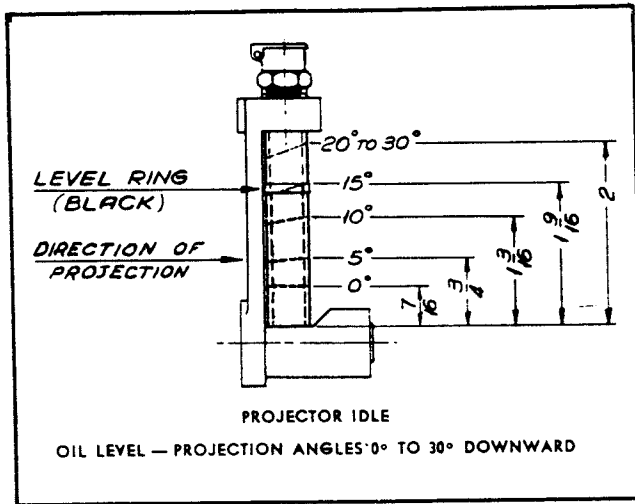

FIGURE 1-17
1. Set the black oil level indicator ring on the oil sight gauge as shown in figure 1-17 or 1-18. The drain plug in the oil gauge must be tight.